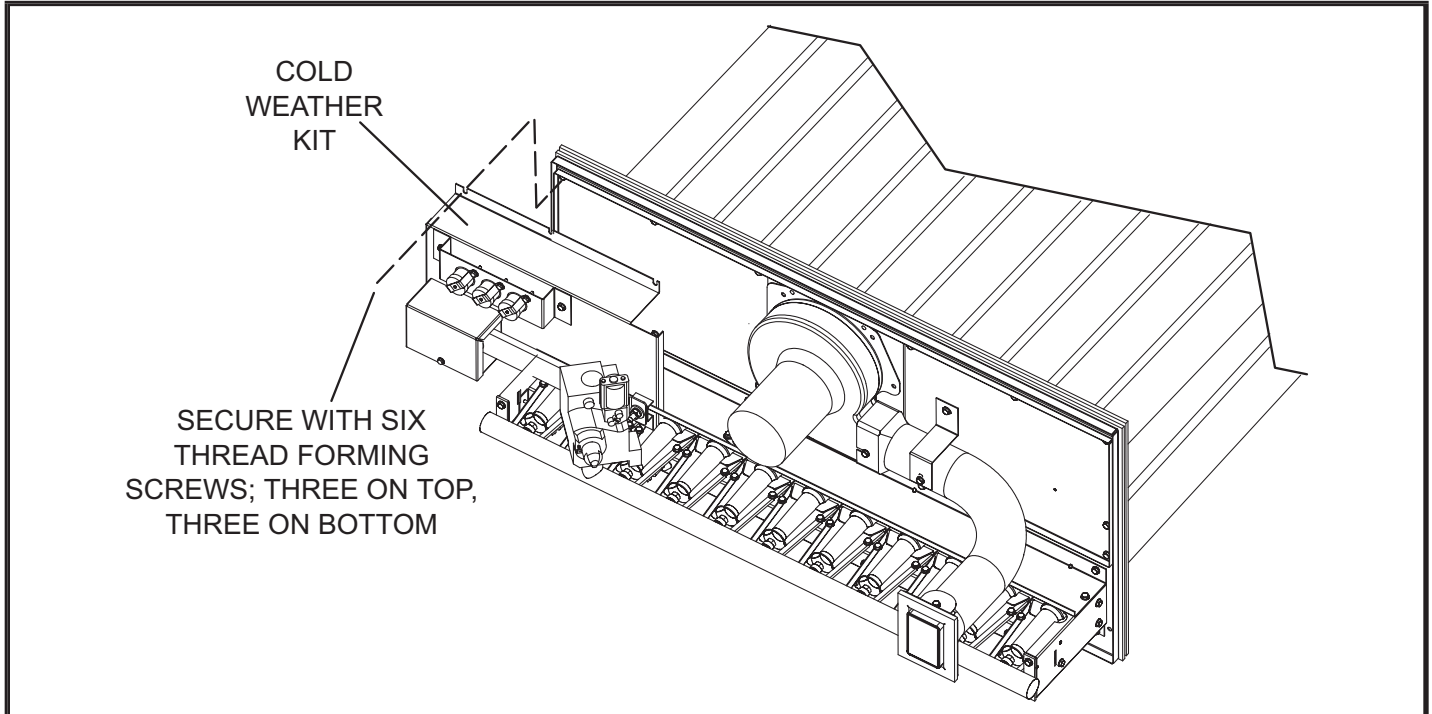

FIGURE 14
- 2 - Install both cold weather assemblies as shown in figure 14. Use existing screws.
- 2 - Install both cold weather assemblies as shown in figure 14. Use six thread forming screws, provided.